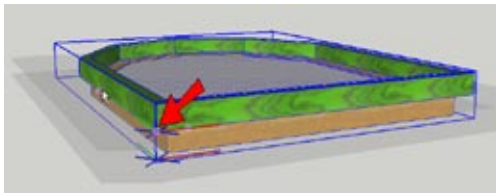

Figure 7-48
- Define the component origin at the bottom corner of the green frame, because this is where the window will meet the wall. Keep the component's red and green axes in their current directions (Figure 7-48).